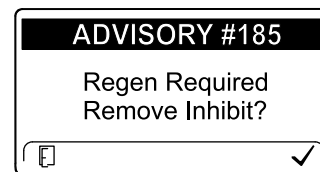

Figure 41
**Note:** If you set the InfoCenter to inhibit regeneration, the InfoCenter displays ADVISORY #185 (Figure 41) every 15 minutes while the engine requests a reset regeneration.